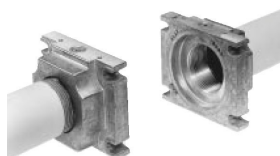

Fig. 12
- 3 Remove MultiBloc between the threaded flanges (Fig. 12)